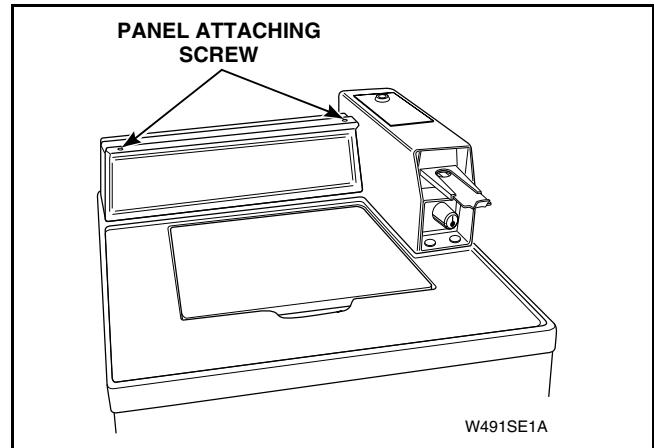

Figure 5
- (1) Remove two control panel attaching screws. Refer to *Figure 5*. Lay assembly forward on a protective pad on cabinet top.
- (1) Remove two control panel attaching screws. Refer to *Figure 5*. Lay assembly forward on protective pad on cabinet top.
- (2) Disconnect wires from light.
- (1) Remove two control panel attaching screws. Refer to *Figure 5*. Lay control panel assembly face down on protective padding.
- (1) Remove control panel attaching screws. Refer to *Figure 5*. Lay assembly forward on protective pad on cabinet top.